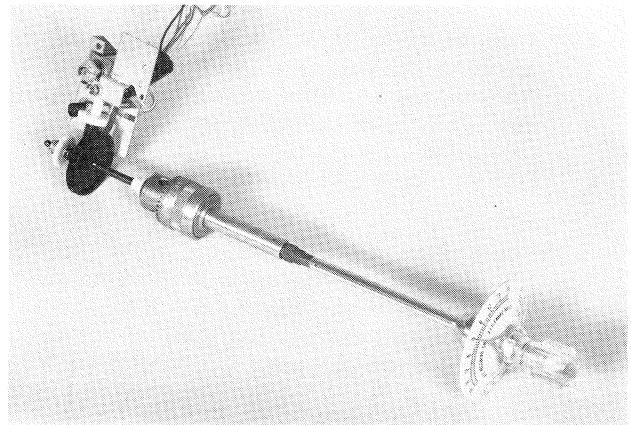

Figure 9. Torque Measurement w/Gage G17-38000
2. Attach the Torque Wrench #G17-38000 (not part of Tool Kit SS-363) to the G17-38000A Adapter (Figure 9)
2. Attach the Torque Wrench #G17-38000 (not part of Tool Kit SS-363) to the G17-38000A Adapter (Figure 9).